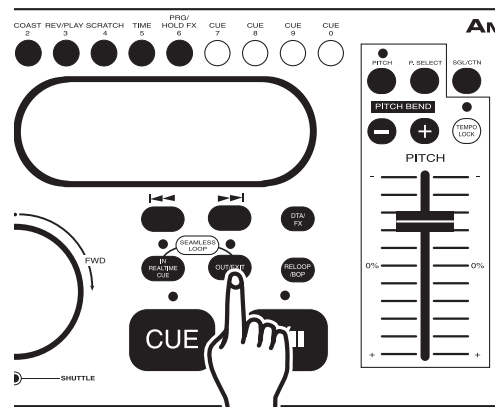

Figure 26
EXITING A LOOP - To exit a SEAMLESS LOOP, press the OUT/EXIT BUTTON (28). The IN REAL-TIME CUE BUTTON (26) and OUT/EXIT BUTTON (28) LEDs will remain on, but will stop flashing. Music playback will resume normal play (Figure 26). The IN REAL-TIME CUE BUTTON (26) and OUT/EXIT BUTTON (28) LEDs will remain on to remind you that a loop is stored in memory.
REPLAY LOOP - The RELOOP (30) function allows you to return to your stored loop at any time. The IN REAL-TIME CUE BUTTON (26) and OUT/EXIT BUTTON (28) LEDs will indicate a loop is stored in memory, and may be played at any time. To replay the loop, press the RELOOP/BOP BUTTON (30). The IN REAL-TIME CUE BUTTON (26) and OUT/EXIT BUTTON (28) LEDs will again begin to flash indicating SEAMLESS LOOP mode has been activated (Figure 26) and your stored loop will immediately begin to play.
- 1) Press the OUT/EXIT BUTTON (28) to return to normal play from the loops cue point (Figure 26). This will disengage the SEAMLESS LOOP and allows you to edit the loops ending point.
- 2) Press the OUT/EXIT BUTTON (28) again when you reach your new ending point (Figure 26).
- FOR A SHORTER LOOP: Press the OUT/EXIT BUTTON (28) at sooner point in the track (Figure 26).
- FOR LONGER LOOP: Press the OUT/EXIT BUTTON (28) at later point in the track (Figure 26).